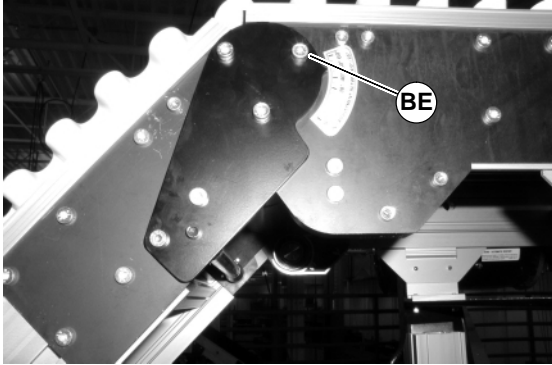
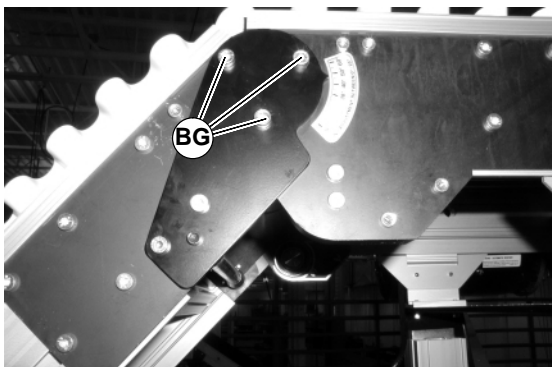

Figure 45
Figure 47
1. Conveyor is shipped from factory locked in the flat position, to unlock conveyor knuckle remove the gold screw (BE of Figure 45) on both sides of the conveyor.
3. Loosen screws (BG of Figure 47) on both sides of knuckle.
5. Tighten screws (BG of Figure 47) on both sides of knuckle to 100 in-lbs (12 N-m). If applicable, replace the gold locking screw (BE of Figure 45).
gold screw (BE of Figure 45) on both sides of the conveyor.
- Tighten screws (BG of Figure 47) on both sides of knuckle to 100 in-lbs (12 N-m).